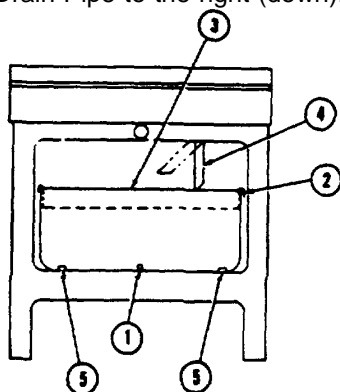

FIGURE 86
- (1) Open door on front of machine base to gain access to Sediment Tray (2, Figure 86) and Oil Reservoir (3). Push Drain Pipe (4) to the left, which lifts it out of the way.
- (2) Tip Tray to allow oil to drain from sludge into reservoir.
- (3) Remove Tray and dispose of sludge. If not cleaning Reservoir, reinstall Tray. Pull Drain Pipe to the right (down).